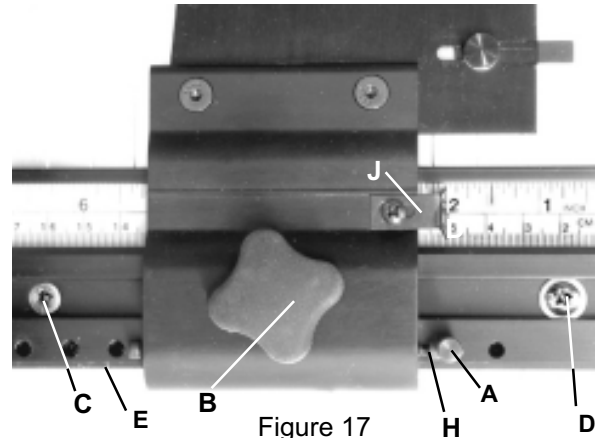

Figure 17
1. Slide the **Mat Guide** to the right until it contacts the **Locator Pin (A)** in the 2" (50mm) hole, and tighten the **Lower (B)**, then **Upper Locking Knobs** on the **Mat Guide**. See Figure 17.